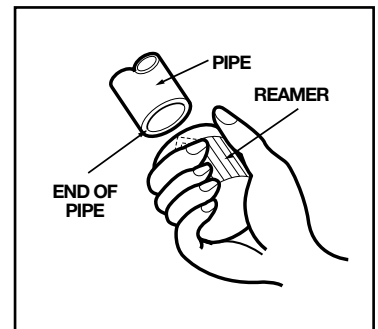

fig.13
- 2b. When removing burrs, hold the pipe tilted downward, to prevent fragments of copper from falling into it (fig.13).